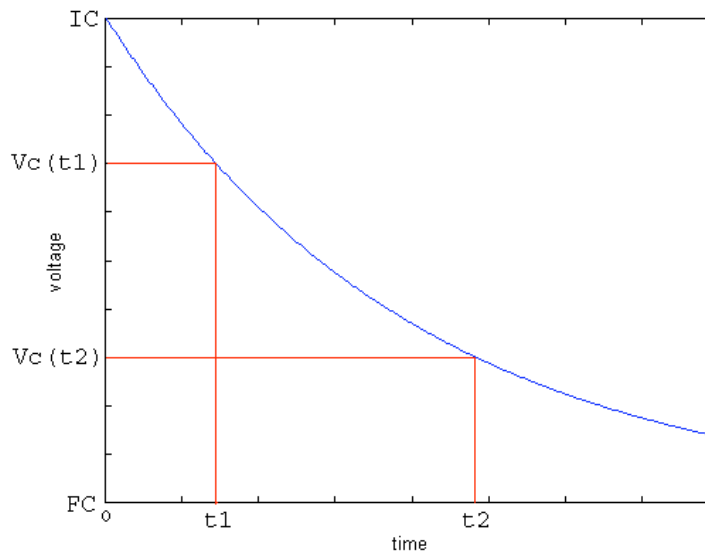

Figure 5. Measuring T_C by curve fitting to two points
- b. Equation 1 can be used to solve for the time constant T_C by measuring the voltage and time coordinates of the waveform at two points, as shown in Figure 5.